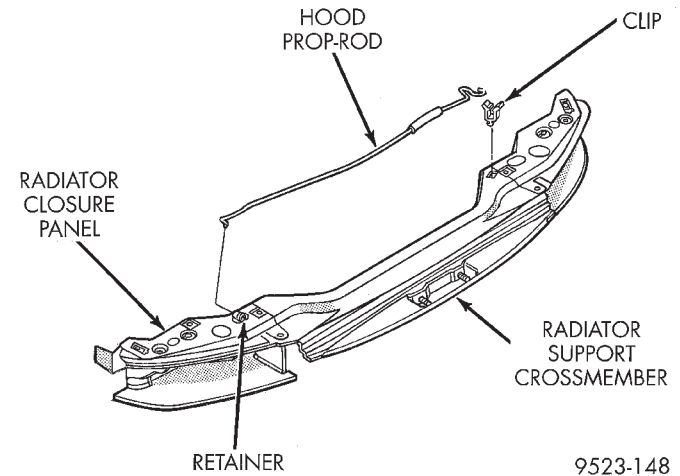

Fig. 20 Hood Prop Rod
- (2) Using a length of wooden dowel rod, prop hood open.
- (3) Disengage prop-rod from retainer holding prop-rod to radiator closure panel (Fig. 20).
- (4) Separate prop-rod from vehicle.